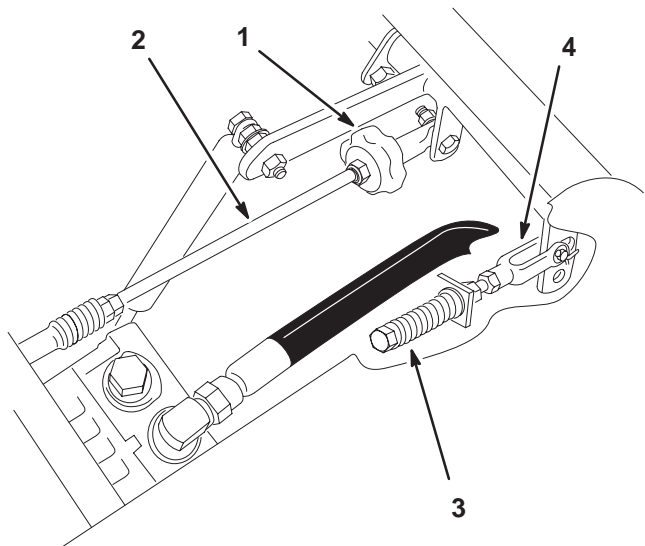

Figure 56
2. Adjust pump rod length by rotating the knob, in the appropriate direction, until the wheel is still or slightly creeping in reverse (Fig. 56).